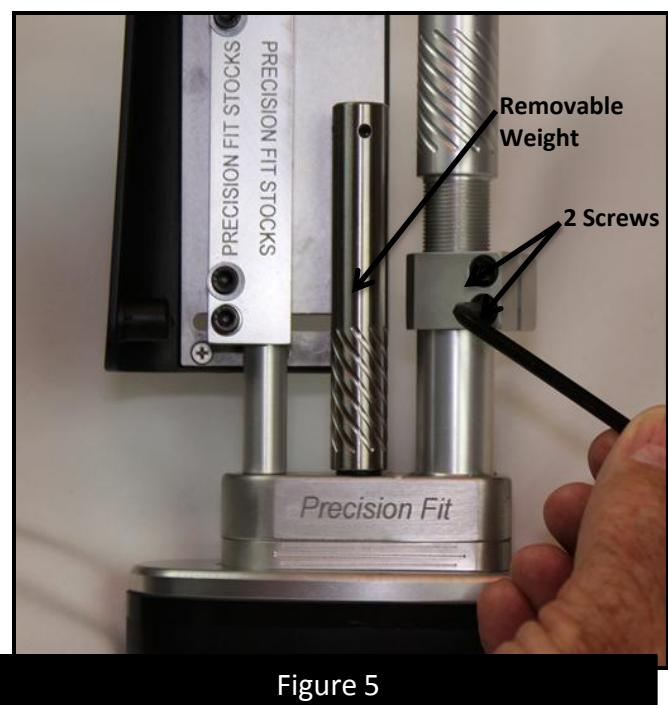

Figure 5
2. Loosen the screws in the Length Of Pull adjustment lock ring [Ident.14]. (**See arrows pointing to screws in Figure 5.**)
4. Tighten screws in the Length Of Pull adjustment lock ring when you are satisfied with the "length of pull" measurement. (*Figure 5*) Make sure the screws in the lock ring are tightened securely.